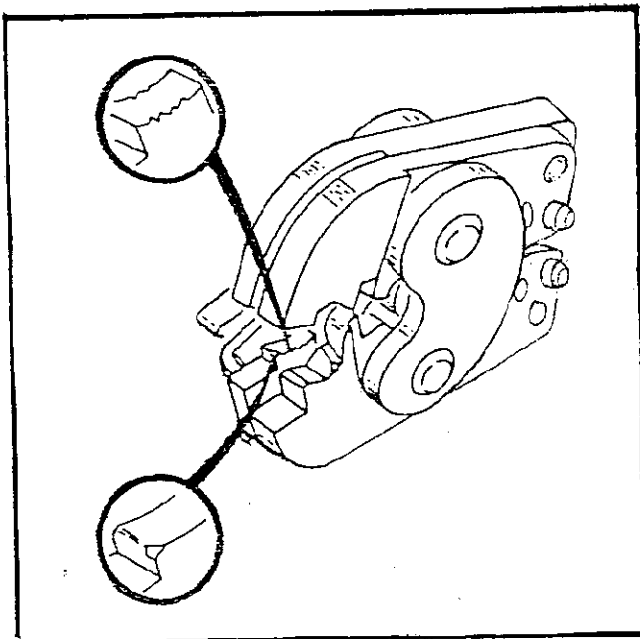

Fig. 3
- a) Check to see if any abnormalities such as chip-off of die edge, crack, damage and breakage took place in crimping dies, as shown in Fig. 3.